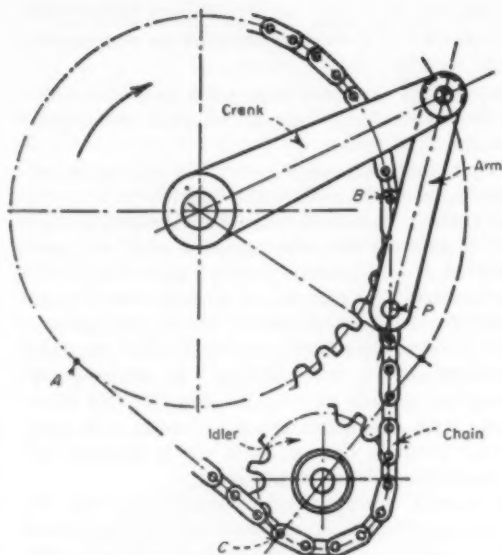

Fig. 13 — Chain-driven intermittent-motion mechanism.
Another ingenious device for producing a momentary dwell in the output is shown in Fig. 13. If the crank and arm are of suitable proportions, the crank will come to a stop once each revolution when the pin *P* reaches the point *C*. A shorter crank will cause a reversal, while a longer crank will eliminate the complete stop. Thus, this mechanism is not as versatile as the previous devices, since it is limited to one stop per revolution of the driver crank.
13. S. Rappaport—"Mechanisms for Producing Specific Types of Motions," *Product Engineering*, Jan. 1951, Pages 130-131. (Fig. 13)